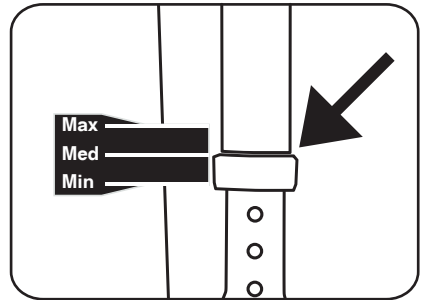

Fig. 1: Downhaul until the calibration mark lines up with the bottom of the mast.
b) Finally, downhaul your sail until the calibration mark lines up with the bottom of the mast (figure 1).